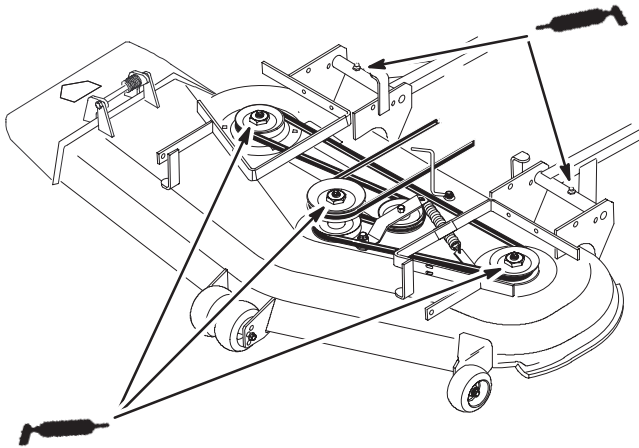

Figure 44
2. Grease the fittings on the three spindle bearings until grease comes out lower seals (Fig. 44).
3. Grease the fittings on the push arms (Fig. 44).